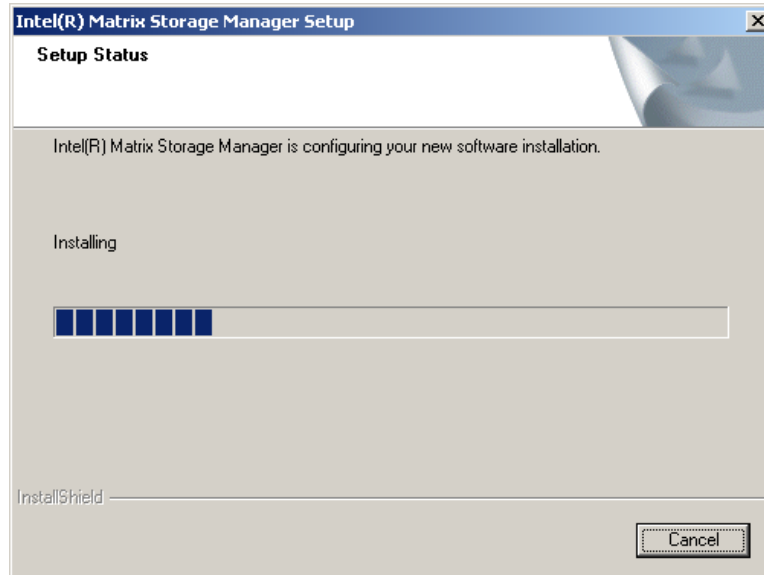

Figure 7-38: Matrix Storage Manager Setup Screen
Step 6: Figure 7-38 shows the Matrix Storage Manager software configuring the installation process.